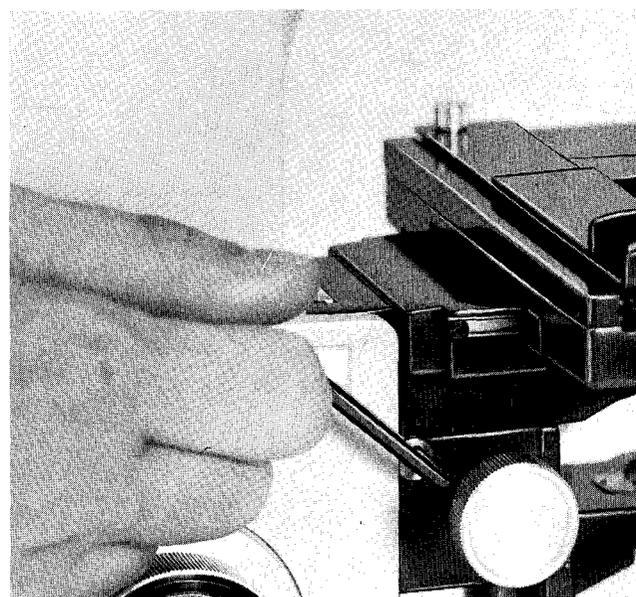

Figure 4. Stage Locking Screw
- (1) Locate socket head screw on left side of stage (Figure 4).
- (2) Support stage with hand and loosen screw.
- (3) Lower stage to desired level.
- (4) Tighten screw.
- (2) Rotate nosepiece to 10X objective.
- (3) Lower nosepiece with coarse adjustment to lower limit.
- (4) Turn fine adjustment so that it is approximately in the middle of its excursion (five turns from either stop).
- (5) Support stage with hand and loosen socket head locking screw on left side of stage (Figure 4) using 9/64" wrench provided.
- (6) Raise stage until stage and stand dovetails are at the same level. Specimen should be in approximate focus. If not, adjust stage height accordingly while looking through microscope.
- (7) Tighten socket screw.
- (8) Bring specimen into sharp focus with fine adjustment.